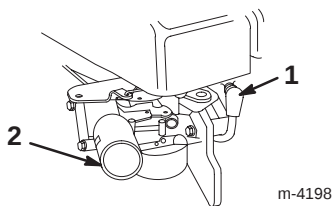

Figure 9
1. Connect the wire to the spark plug (Fig. 9).
2. Push in the primer 3 times, waiting one second between each push (Fig. 9).